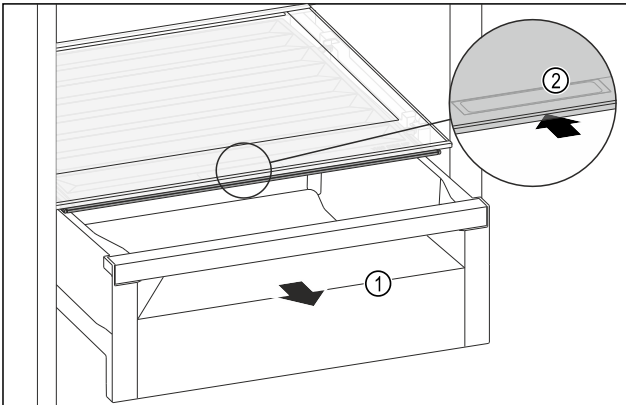

Fig. 67
- ▶ Pull out the drawer Fig. 67 (1).
- ▶ Grasp the recessed grip Fig. 67 (2) on the compartment lid and push the compartment lid backwards at the same time.